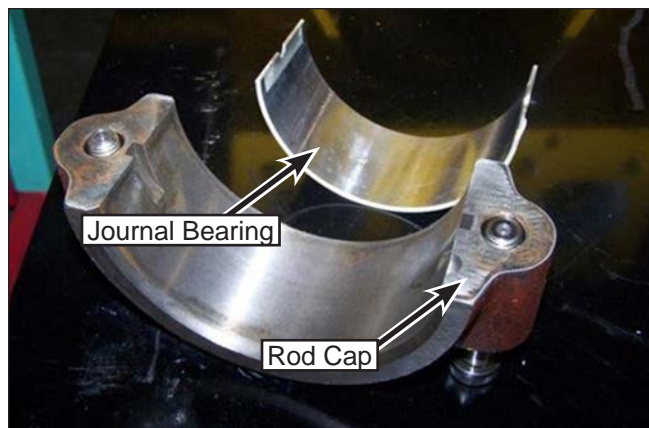

Figure 111: Bearing Removal.
6. Remove the journal bearing from the rod cap and discard (Figure 111).